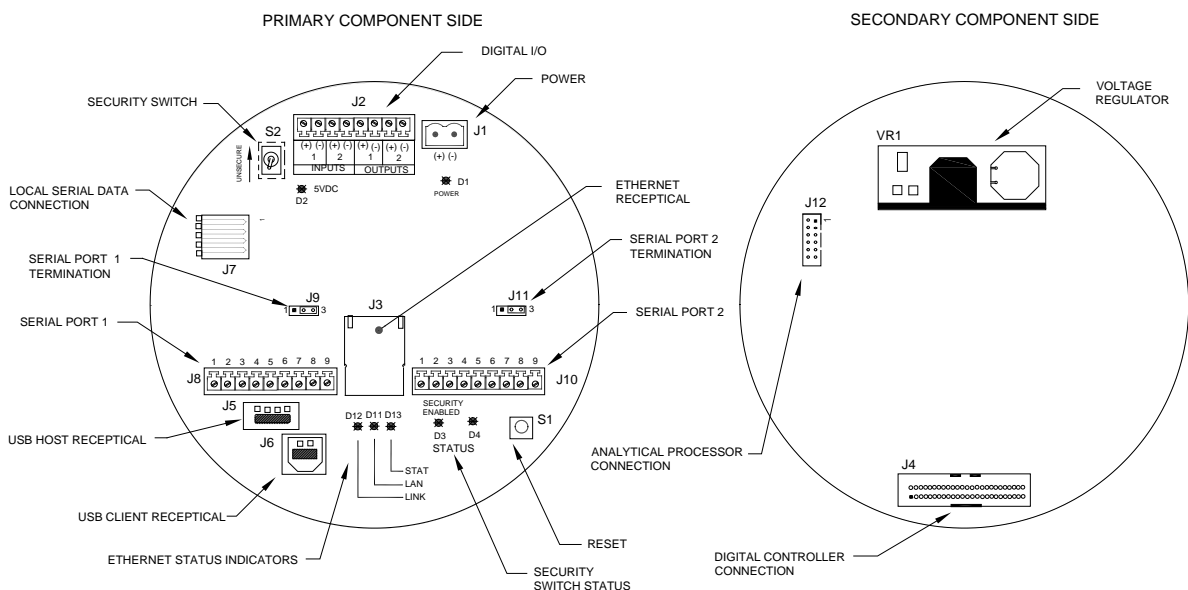

Figure 5-9 Termination Panel
- 6) Disconnect or remove power from the NGC unit externally, or remove the J1 connector from the termination panel (see Figure 5-9).